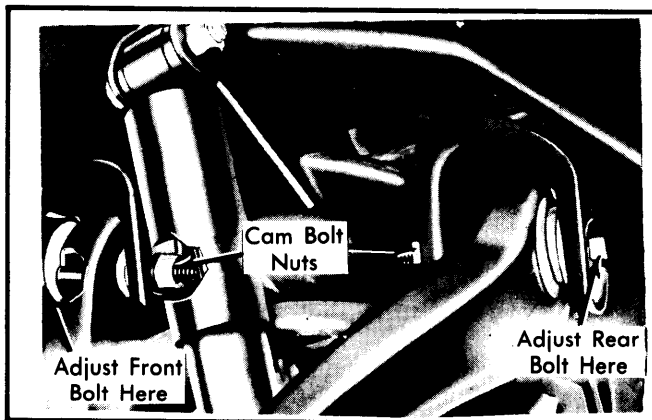

Fig. 31 Caster and Camber Adjustment (Toronado)
**Toronado** — 1) Note camber reading before adjusting caster. Hold front cam bolt and loosen nut. Turn cam to obtain a change equal to  $\frac{1}{4}$  of the desired caster change. See Fig. 31.
2) Hold cam bolt in this position while tightening nut to 110 ft. lbs. to maintain setting. Then, follow the same procedure with the other cam assembly. Caster setting then will not be affected. See Fig. 31.